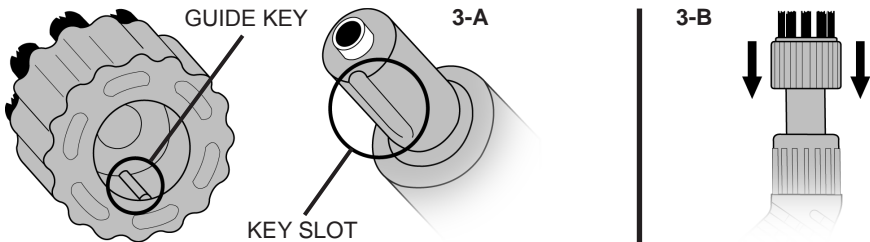

FIGURE 3
NOTE: The Nylon Utility Brush and Brass Utility Brush are all attached in the same manner. The Nylon Utility Brush is illustrated in FIGURE 3 as an example.
1. Align selected Utility Brush with Jet Nozzle. Guide key inside of Utility Brush should line up with key slot on Jet Nozzle tip (FIGURE 3-A).
2. Firmly press Utility Brush onto Jet Nozzle (FIGURE 3-B).